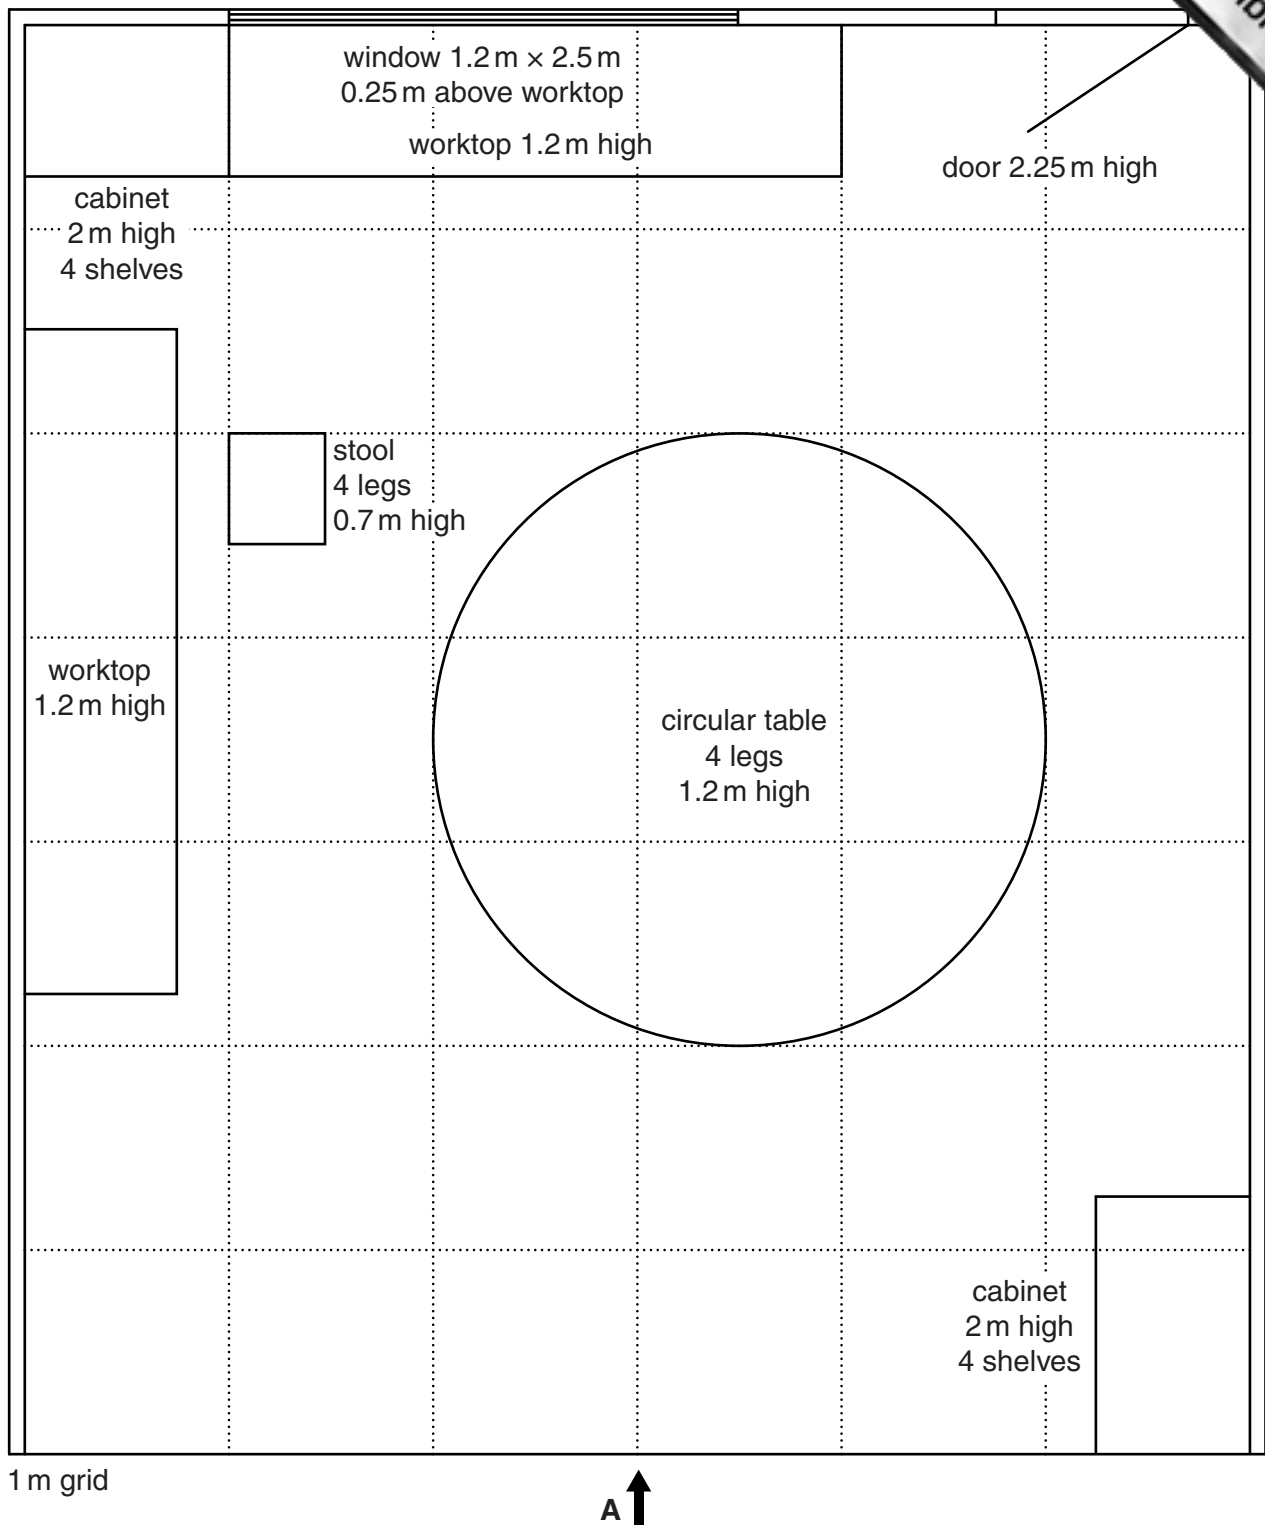

Fig. 5
- 9 Fig. 5 shows the plan of a study area.